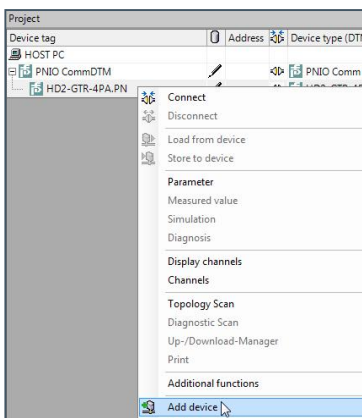

Figure 80: Search for PROFIBUS PA devices manually
- 3) Right-click the PROFINET gateway **HD2-GTR-4PA.PN**, and then select **Add device** (see: Figure 80: Search for PROFIBUS PA devices manually).